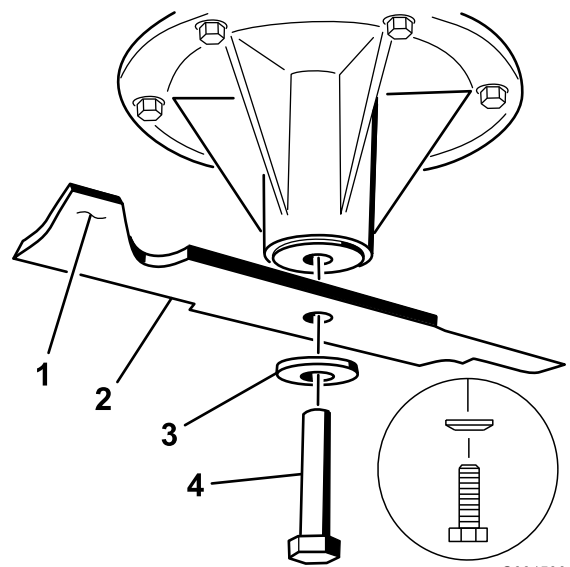

Figure 102
3. If the blade is not balanced, file some metal off the end of the sail area only (Figure 102).
1. Install the left and center blades, curved washers, and blade bolts to the spindle shafts (Figure 102 and Figure 103).
Note: Ensure the curved-washer cone is installed toward the bolt head (Figure 102).
2. Install the right blade, curved washer, and blade bolt (left-hand threaded bolt) to the spindle shaft (Figure 102 and Figure 103).